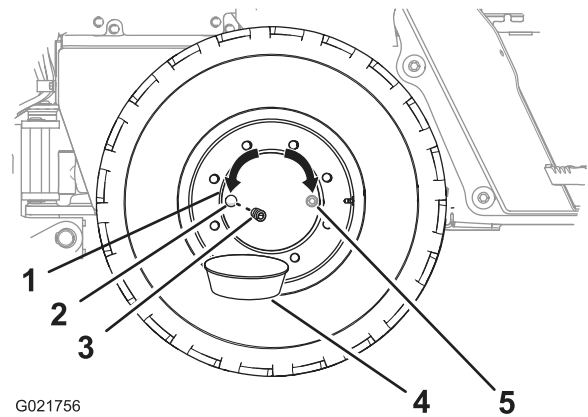

Figure 84
2. Move the machine forward or backward until the plug for the wheel hub is at either the 3 o'clock or 9 o'clock position (Figure 84).
4. Place a drain pan under the drain port in the wheel hub (Figure 84).
5. Remove the plug from the wheel hub (Figure 84).
6. Check that the oil level is at the bottom of the threads of the oil port (Figure 84).
8. Install the plug in the oil port of the wheel hub (Figure 84).